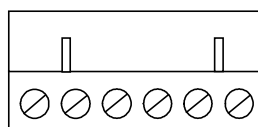

Fig. 13.2-1 Pin 1
- Switch on the XTRA equipment in Diagnostic Mode and check the following voltages on the J37 connector of the NBP p.c. board, (see Fig.13.2-1):